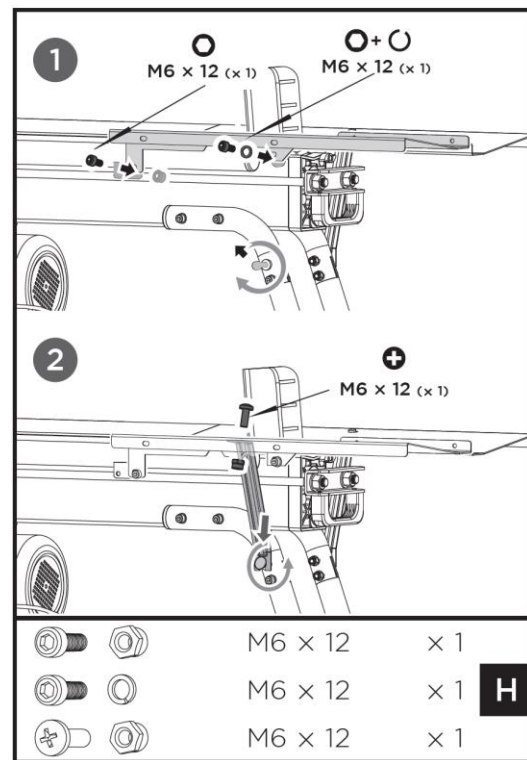

Fig. 8
5. Align the mounting holes of log tray 2 (g) with the holes on the front side of the splitter. Insert one M6×12 socket head cap screw and spring washer (H) into the right mounting hole and one M6×12 socket head cap screw and locknut M6 (H) into the left mounting hole, then securely tighten both. See Fig. 8.
6. Loosen the cup head bolt and nut on the right side of the front leg. Insert the open end of support strut 1 (c) onto the bolt and tighten the nut. Connect the upper end of support strut 1 (c) to log tray 2 (g) with an M6×12 cross recessed pan head screw and a locknut M6 (H), then tighten. See Fig. 8.